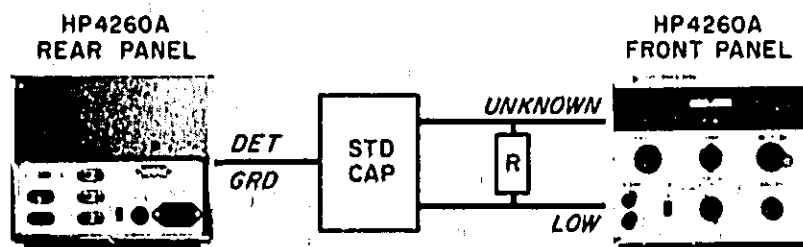

Figure 5-1. Capacitance and D Accuracy Check
a. Connect equipment as shown in Figure 5-1.